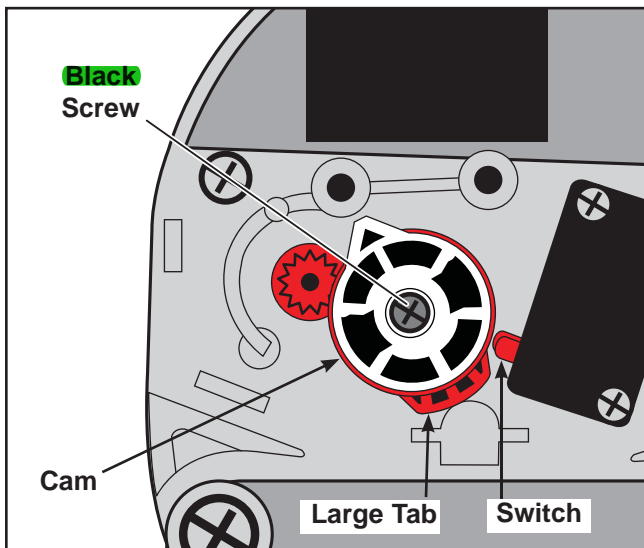

Figure 8
- C. Place the cam assembly from step 7B onto the elevation motor as shown in Figure 8.